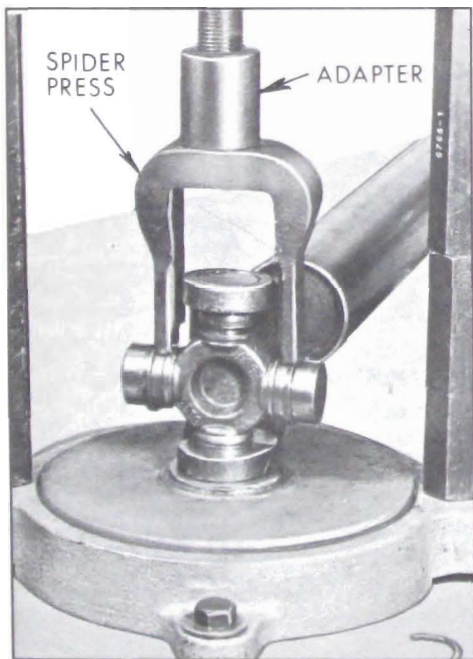

Figure 6-99—Pressing Out U-Joint Bearing
2. Set up J-6180-01 Power Ram and J-6207 Hydraulic Pump in preparation for removing the propeller shaft bearings. With this use Axle Bearing and Retainer Replacer J-8853 as a base plate. Attach Adapter J-9522-2 onto the ram screw. See Figure 6-99.
3. Position the propeller shaft universal joint into the fixture as set up in Step 2 with a bearing over the hole in Replacer J-8853. Install Spider Press J-9522-3 on spider. See Figure 6-99.